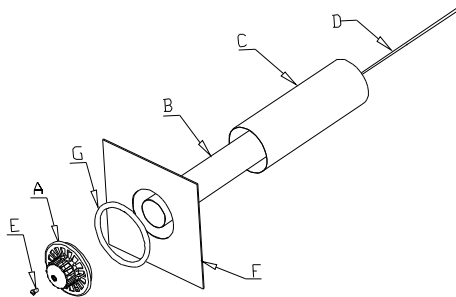

Figure 14
The venting system consists of: one injected-aluminum cap (A), one vent pipe (B), one vent-air intake pipe (C), one rod (D), one nut (E), one outdoor mounting plate (F) and one silicon-rubber ring (G). (See figure 14).